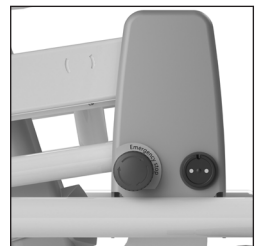

Figure 31. Charging point.
- The charging point is located on the right side of the seat (1) (See figure 31).
- Connect the charger to the Reflex XL/Reflex XXL (See figure 31).